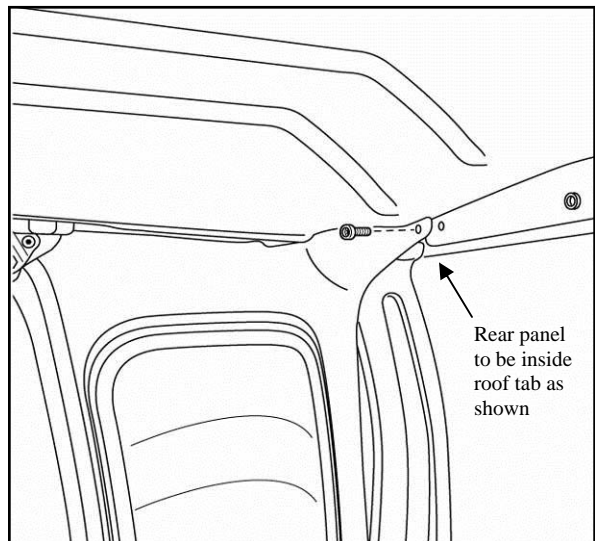

Figure 8: Install Three Rear Stud Snaps
2.4. Install the three rear stud snaps in the previously drilled roof tab with the snap end on the inside of the vehicle and the nylon locknut on the outside as shown (Figure 8). The two outer fasteners will be used to connect the top of the rear plastic panel with the roof. Use three #10 hard plastic nut covers on the locknuts.